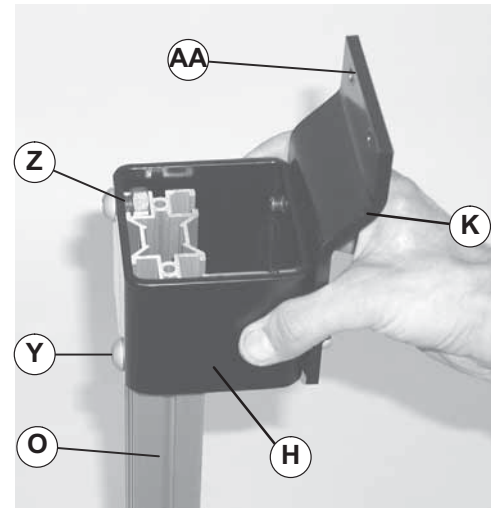

Figure 10
- Align hex nuts (Figure 10, item Z) on leg support (H) to t-slots at top, outside of stand leg (O). Slide leg support down stand leg until conveyor mounting holes (AA) on pivot bracket (K) are approximately the same height as the lower t-slots on conveyor. Tighten button head screws (Y) just enough to keep leg support in position.
Failure to secure screws (Figure 10, item Y) may cause conveyor sections to drop down causing severe injury.
20. Tighten four button head screws (Figure 10, item Y) to 17 ft-lb (22.5 N-m).